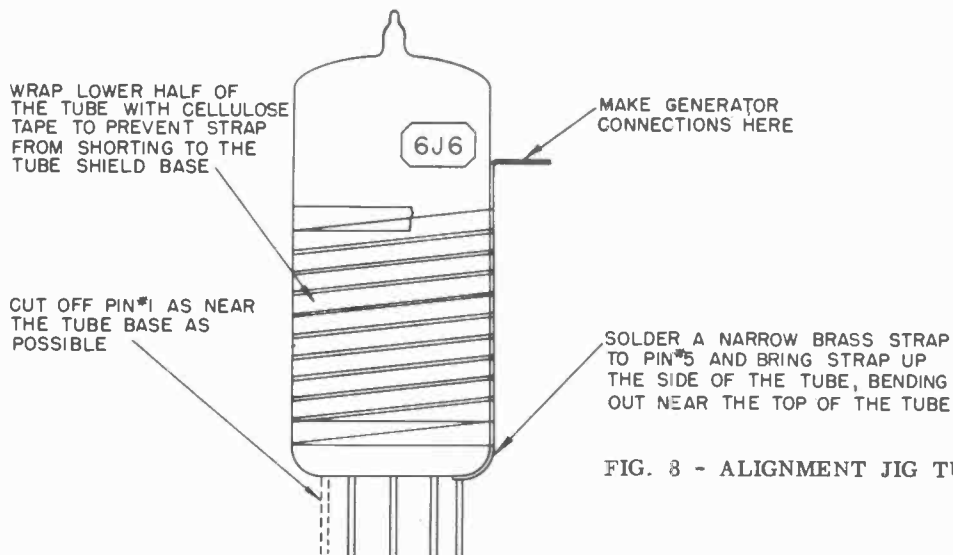

FIG. 8 - ALIGNMENT JIG TUBE
6. Jig Tube. This test instrument should be made from a 6J6 tube. See Figure 8.